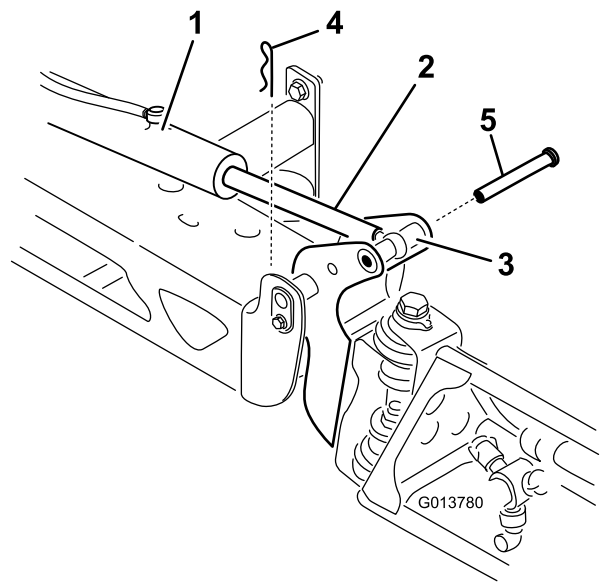

Figure 80
3. Lift up on the boom and remove the pin (Figure 80). Slowly lower the boom to the ground.
2. Remove the cotter pin from the pivot pin (Figure 80).
8. Raise the boom to align the pivot with the actuator rod. While holding the boom, insert the pin through both boom pivot and actuator rod (Figure 80).